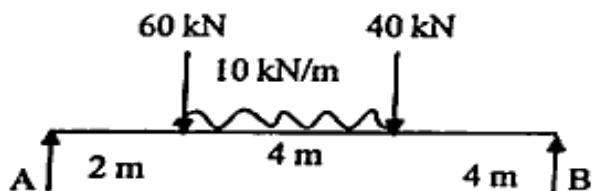

Figure 1 (आकृति 1)
2. a) Draw the S.F and B.M diagrams of the beam shown in Figure 1.